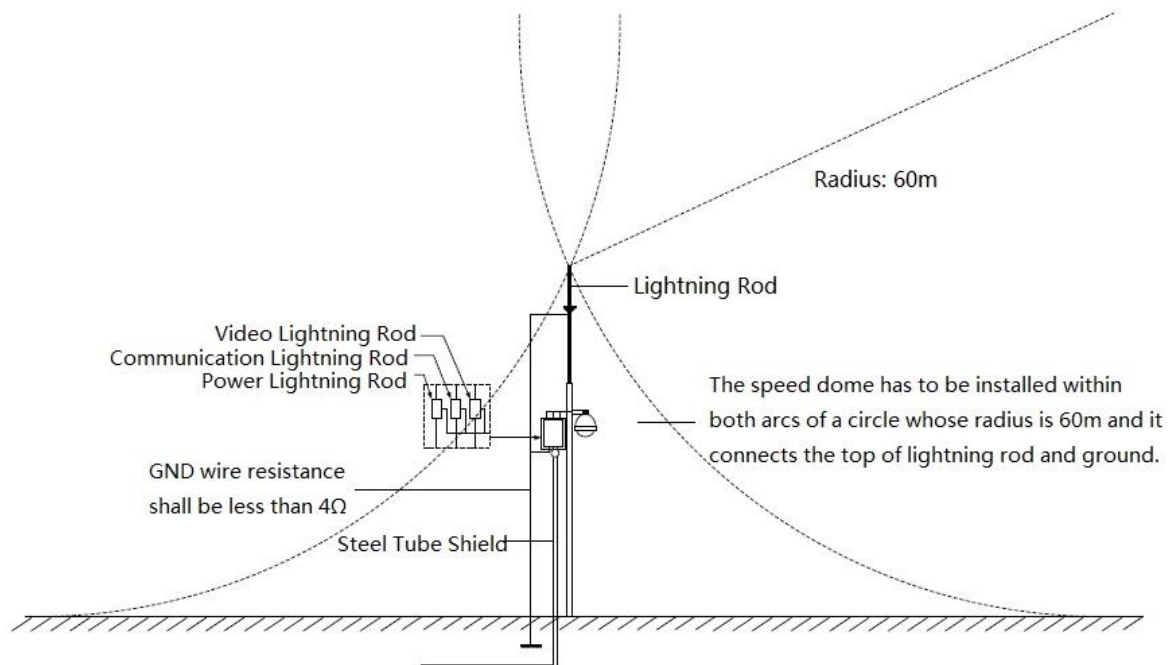

Figure 7-1
- System shall adopt equal-potential wiring. The earth device shall meet anti-jamming and at the same time conforms to your local electrical safety code. The earth device shall not short circuit to N (neutral) line of high voltage power grid or mixed with other wires. When connect the system to the earth alone, the earth resistance shall not be more than $4\ \Omega$ and earth cable cross-sectional area shall be below $25\ \text{mm}^2$. See Figure 7-1.